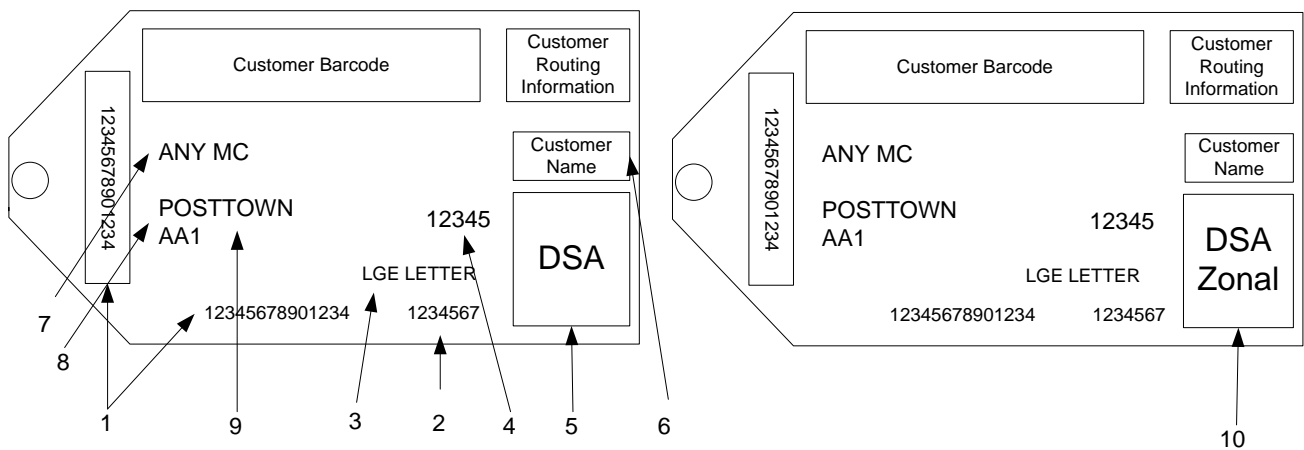

Figure 11: Bag label National (left label example) and Zonal options (right label example)
- Figures 11 to 13 below are examples of what a Container label looks like, including the information to include, the specifications for field size, fonts and formatting. Please note all fields are aligned left, unless otherwise stated.
- The below table provides further detail of what information against each of the label indicators in the above Figures 11 to 13, you are required to include on the labels: